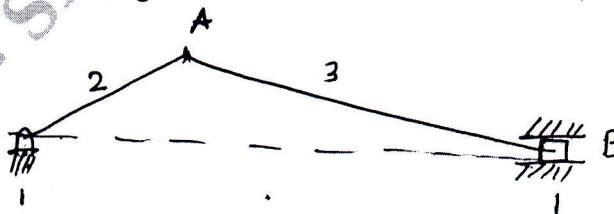

Fig.Q.4(c)
c. In a slider crank mechanism shown in Fig.Q.4(c) the crank OA = 300mm and connecting rod AB = 1200mm. The crank OA is turned 30° from inner dead centre. Locate all the instantaneous centres. If the crank rotates at 15rad/sec clockwise find i) Velocity of slider B